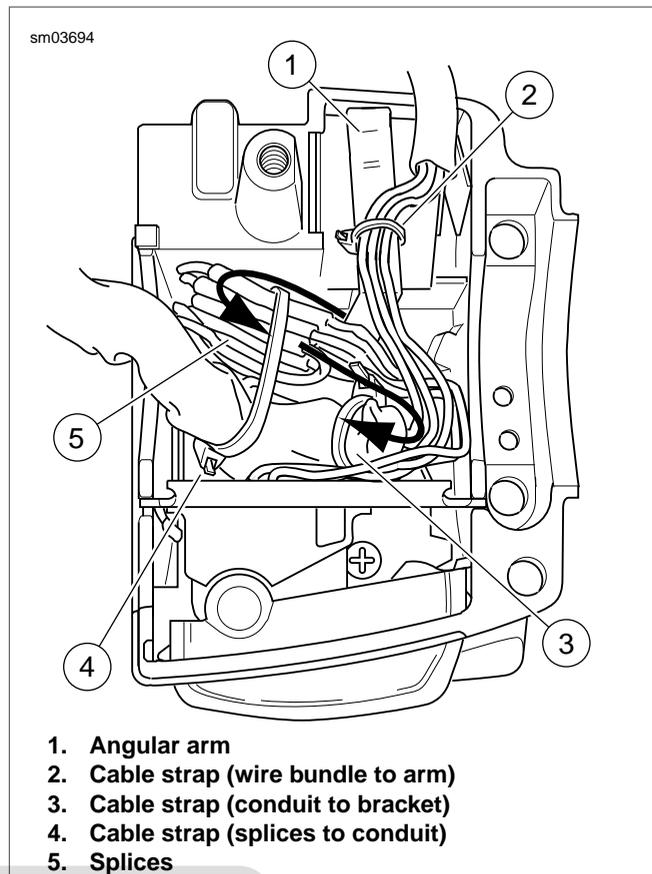
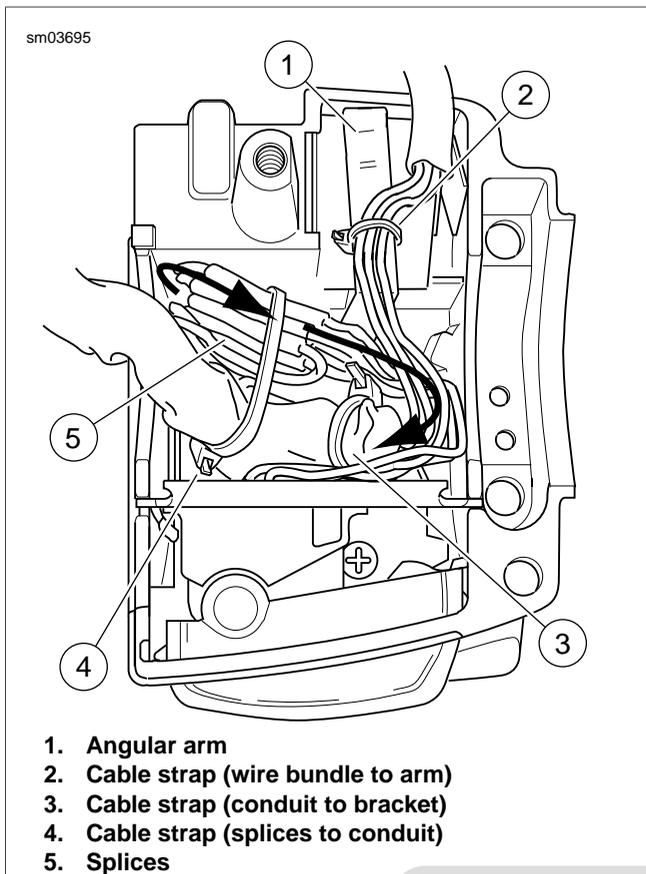

Figure 8-136. Mode Select Handlebar Switch Housing (Lower Right) - Classic/Ultra Models
Figure 8-137. Cruise Control Handlebar Switch Housing (Lower Right) - Classic/Ultra Models
- Loop switch wires, so that spliced lengths are positioned as shown in Figure 8-136 or Figure 8-137.